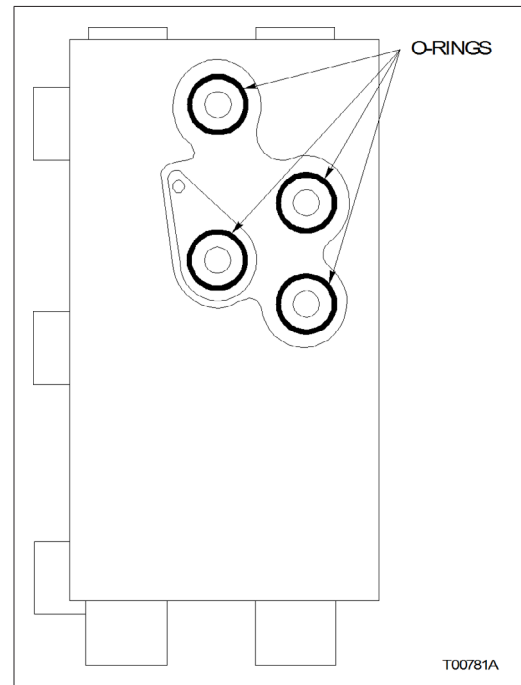

Figure 8-2. Manifold O-Rings
6. Replace the O-rings or clean them if they are in good condition (Fig. 8-2).